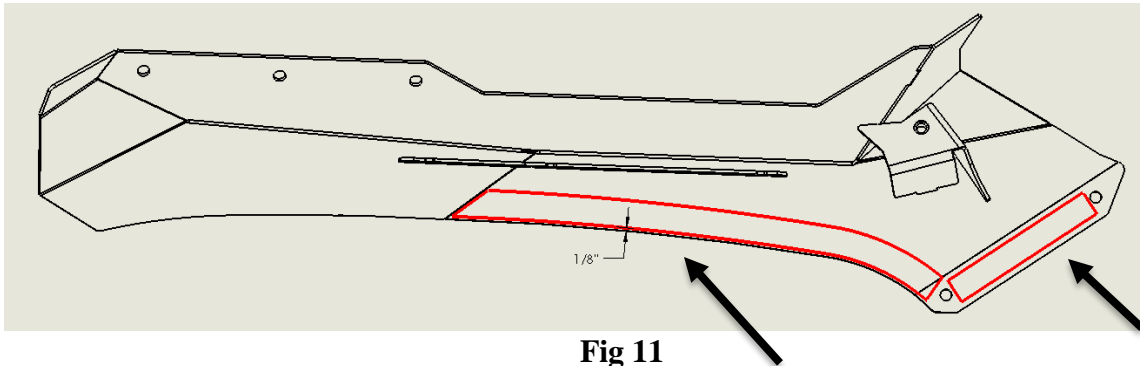

Fig 11
- d. Install the 1" neoprene rubber strip to the inside of both arms as shown in **Fig 11**.